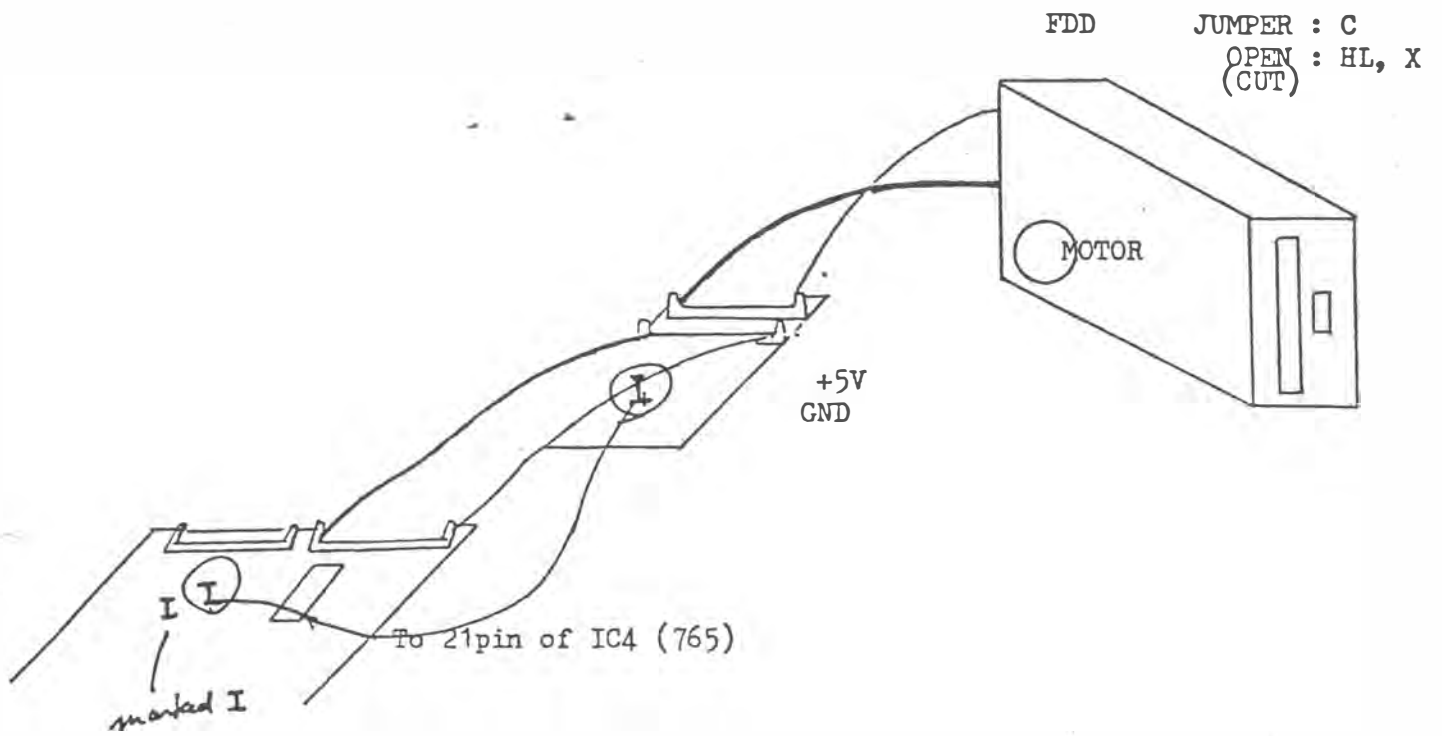

FIG 4. CONNECTION OF ADAPTOR (FLIP FLOP BOARD)
2. Use pins mounted on both TALOS and Adaptor boards for connection between "+" on Adaptor and 21pin of IC4. (See Fig. 4.)